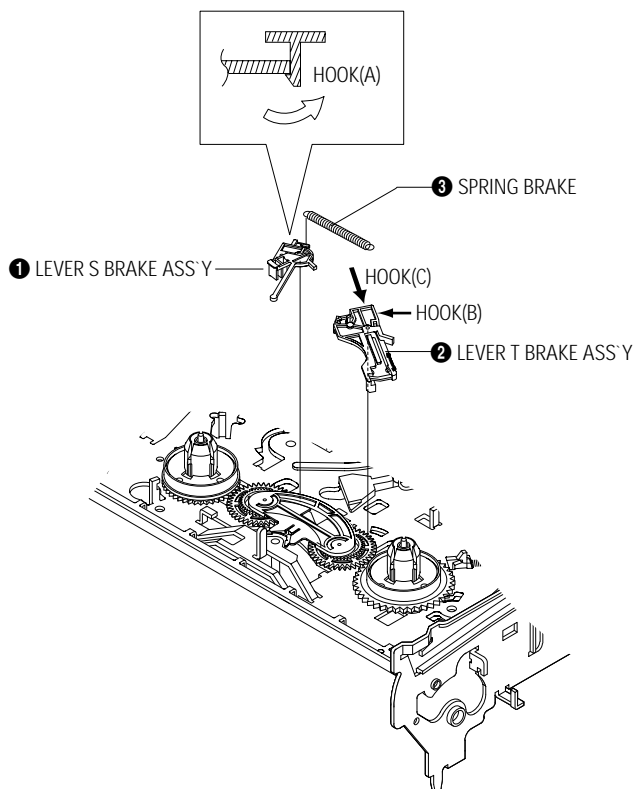

Fig. 4-22 Lever Brake S, T Ass'y Removal
- 1) Remove the Lever Brake S Ass'y (Refer to Fig 4-22)
- 2) Remove the Spring Tension Lever ❶.
- 4) Lift the Lever Tension Ass'y ❷ & Band brake Ass'y ❸.
- 1) Release the Hook [A] and the Hook [B], [C] in the direction of arrow as shown in Fig 4-22.
- 2) Lift the Lever S, T Brake Ass'y ①, ② with spring brake ③.